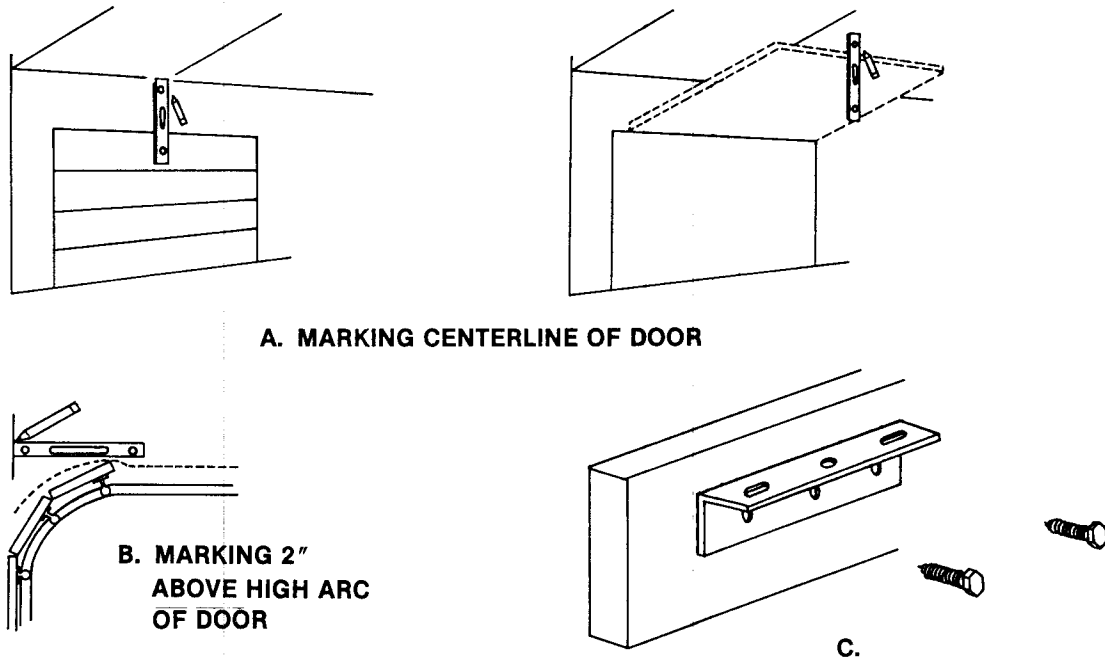

FIG. 4
STEP 3. Attach one of the angle brackets provided directly to the structure or the addition with lag screws or bolts and self locking nuts so that one leg of the bracket provides a shelf upon which the front end of the rail may be rested and subsequently attached. (See Fig. 4 C). The leg of the bracket forming the shelf should be at the horizontal mark made in **STEP 1**. The center hole in this leg should be aligned with the center of the door opening or the vertical line. The other leg of the bracket which is to be attached to the structure may be above or below the mark as the situation requires.
If a ceiling exists, before proceeding with **STEP 4**, open the door and with the door in its fully open position, plumb from the center of the top edge of the door to the ceiling and mark the ceiling. (See Fig. 4 A). Return the door to its fully closed position. Between the ceiling mark made in **STEP 1** and this mark, a string or chalk line can be pulled to define a center line about 2 to 3 ft. behind the door when it is fully open. This will be helpful in **STEP 5**.